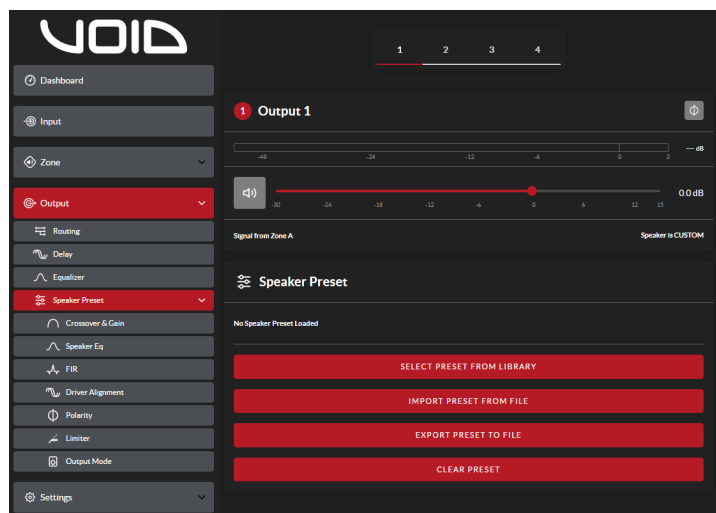

Figure 5.5: Speaker Preset Parameters
- The Speaker Preset menu enables speaker parameters to be adjusted, and preset configurations to be created. Speaker Presets can be simply applied to the selected amplifier output or exported, imported or cleared. The preset configurations can include any or all of the parameters described in the following paragraphs and can be protected to prevent inadvertent modification. Figures 5.5 to 5.7 illustrate the application of speaker presets.